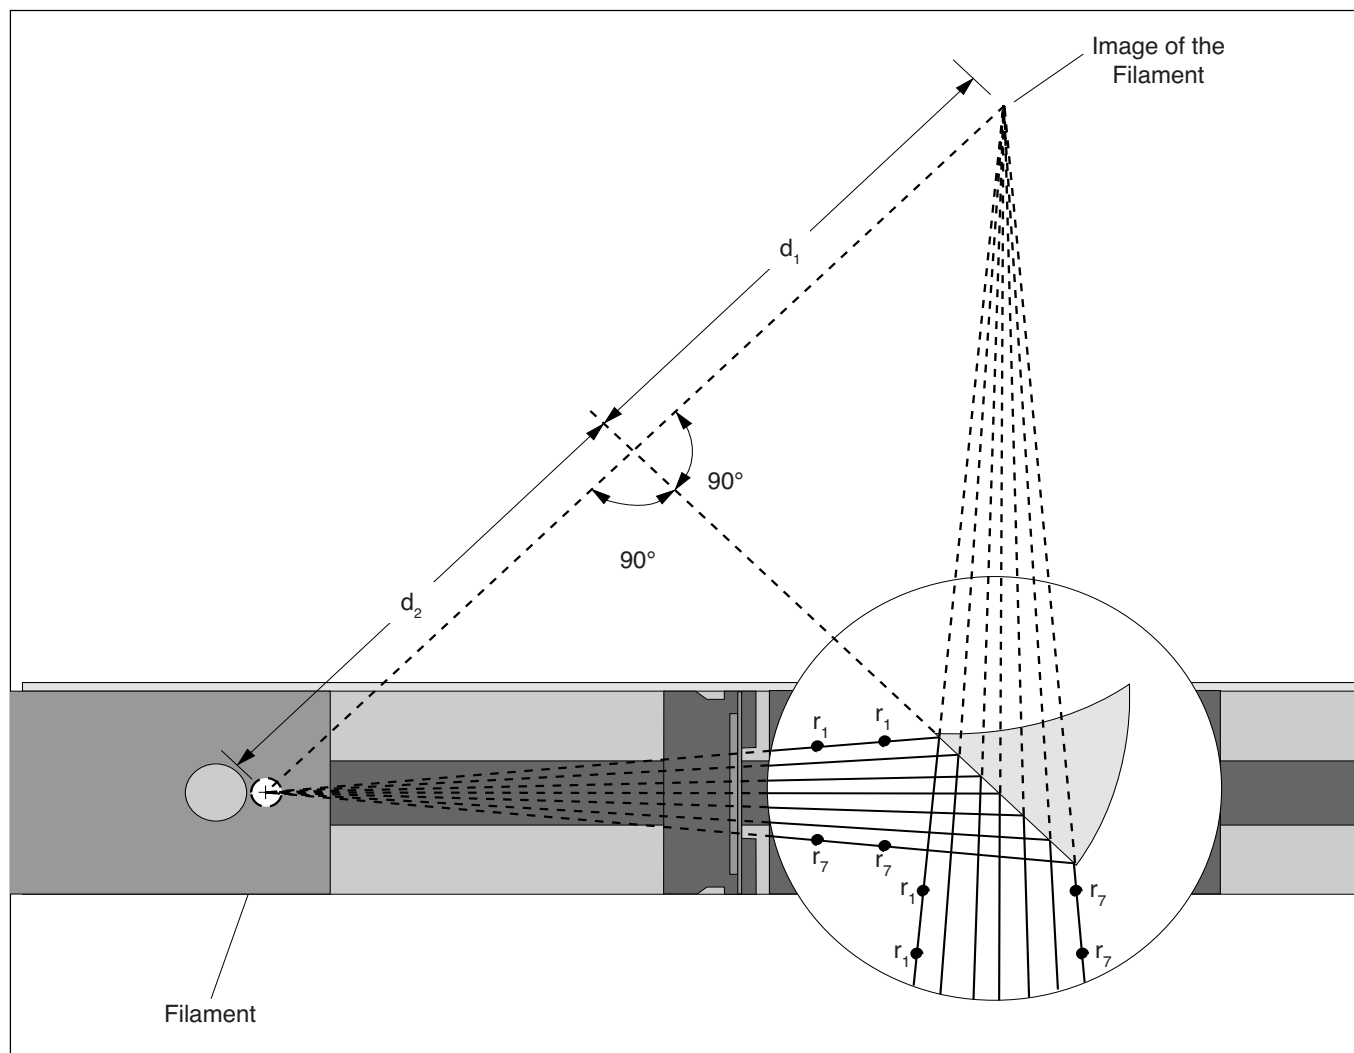

Figure 3.2 Ray Tracing
Remove the paper and reconstruct the rays as shown on the next page (Figure 3.2), using a pencil and straightedge. If you need to, tape on additional pieces of paper. Draw dotted lines to extend the incident and reflected rays. (If this ray tracing technique is unfamiliar to you, review ray tracing in Experiment 1: Introduction to Ray Optics.)
- ② What is the perpendicular distance from the filament to the plane of the mirror (distance d_1 , as shown in the Figure 3.2)? _____.
- ③ What is the perpendicular distance from the image of the filament to the plane of the mirror (distance d_2 , as shown in the Figure)? _____.
- ④ What is the relationship between object and image location for reflection in a plane mirror?